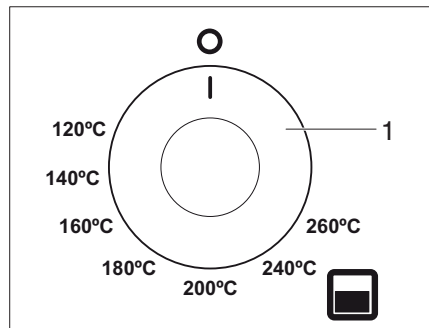

Fig. 120 Control knob of the oven
- ▶ Open the door and push in the control knob (Fig. 120,1).
- ▶ Keep the control knob (Fig. 120,1) pressed for about 10-15 seconds and then release it.
- If the burner accidentally extinguishes turn the control knob (Fig. 120,1) to the 0 position and wait at least 1 minute before re-igniting the burner.
- ▶ Turn the control knob (Fig. 120,1) clockwise to the 0 position to turn off the burner.